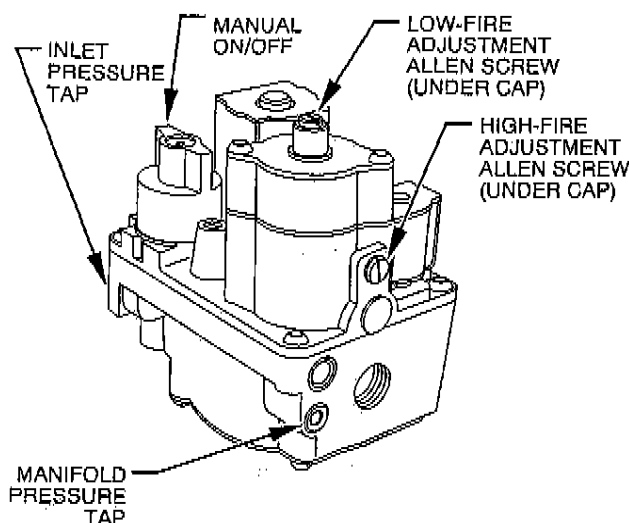

Fig. 13—Redundant Automatic Gas Control Valve
- (2.) Remove gas control regulator adjustment seal caps. (See Fig. 13.)